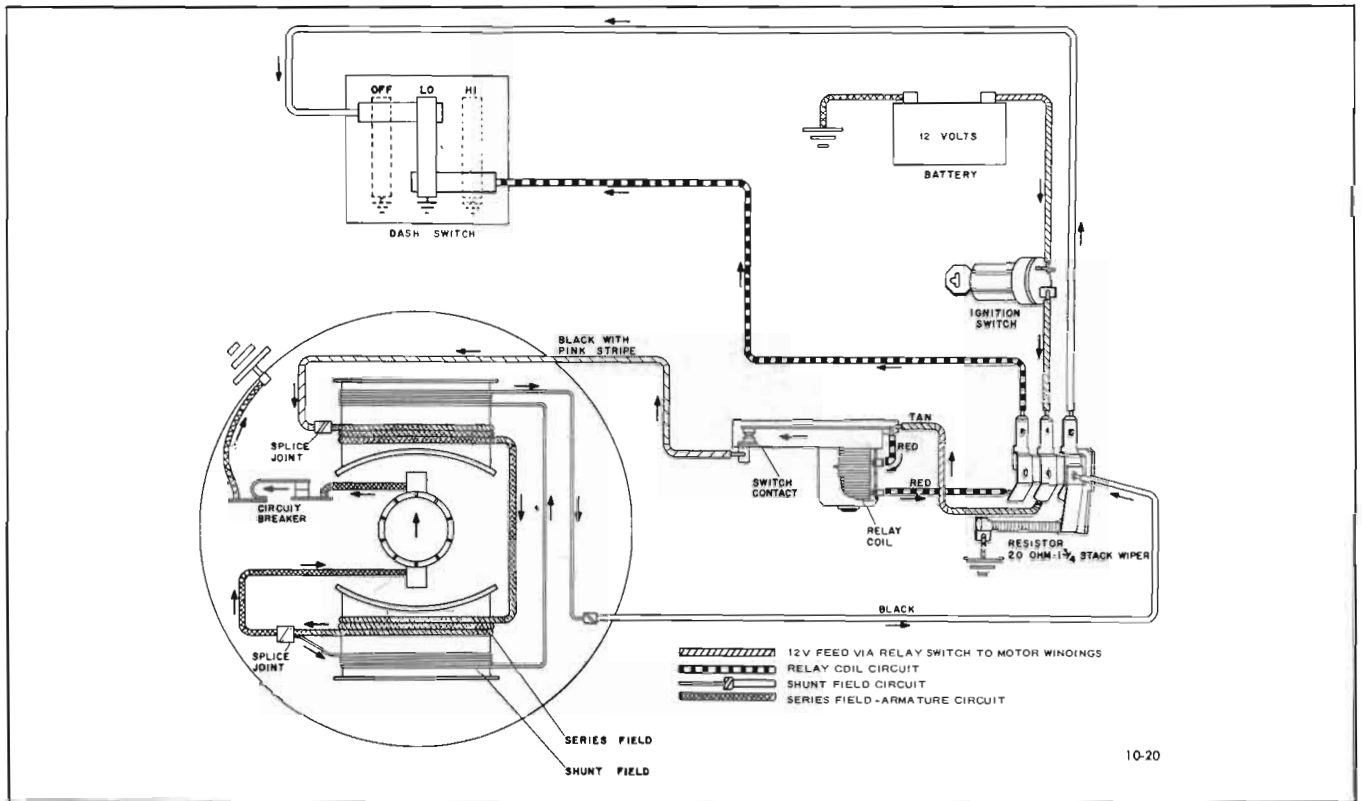

Figure 10-20—Wiring Diagram - Low Speed Operation
**2. Wiper On Low Speed.** When the owner turns the wiper on at the dash switch, the circuit through the relay switch assembly coil is completed to ground at the dash switch. The motor shunt field ground connection at the dash switch is maintained. See Figure 10-20. With the magnet coil energized, the latch arm is attracted to the magnet coil. This action trips the latch arm away from the flexible switch contact which allows the switch contacts to close. When the contacts close, the 12V feed (black with pink stripe) to the wiper motor windings is completed and the wiper motor starts.